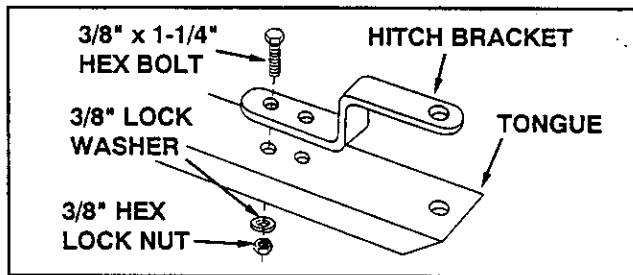

FIGURE 9
- Assemble the hitch bracket to the front tongue using two 3/8" x 1-1/4" hex bolts, 3/8" lock washers and 3/8" hex nuts. Tighten. See figure 9.